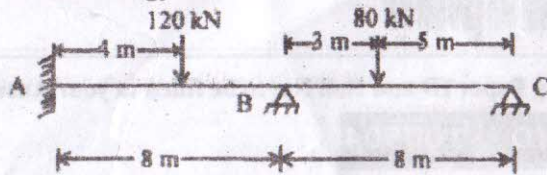

Fig 3
- (c) Analyze the following continuous beam fig 3. using the strain energy method.